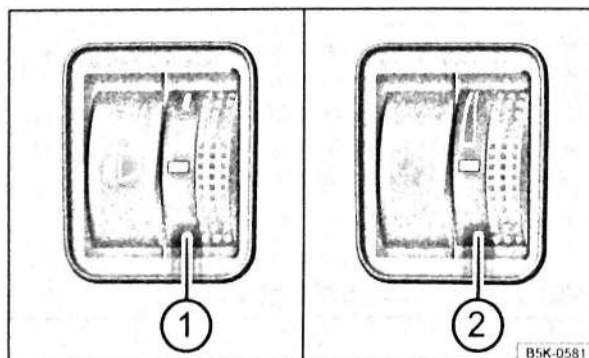

Fig. 83 Next to the steering wheel: headlight range control ① and instrument and switch lighting control ②
Depending on what level it is set to, the headlight range control ⇒ Fig. 83 ① adjusts the position of the light cones in the headlights according to the load that the vehicle is carrying. This gives the driver the best visibility possible and means that on-coming traffic will not be dazzled ⇒ ⚠.